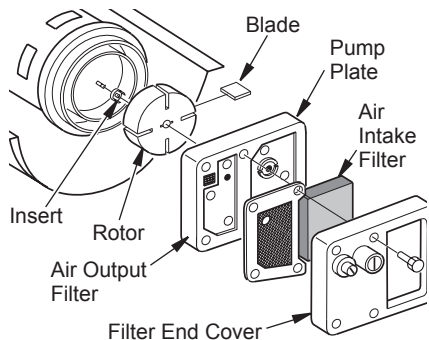

Figure 19 - Rotor Location
2. Remove filter end cover screws using 5/16" nut driver (see Figure 19).
6. Remove rotor, insert, and blades (see Figure 19).